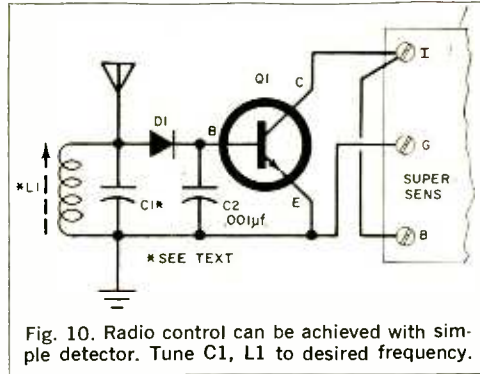

Fig. 10. Radio control can be achieved with simple detector. Tune C1, L1 to desired frequency.
**Radio Control.** *Super-Sens* can be operated by remote radio signals provided that a suitable control circuit is connected to its input terminals, as shown in Fig. 10.